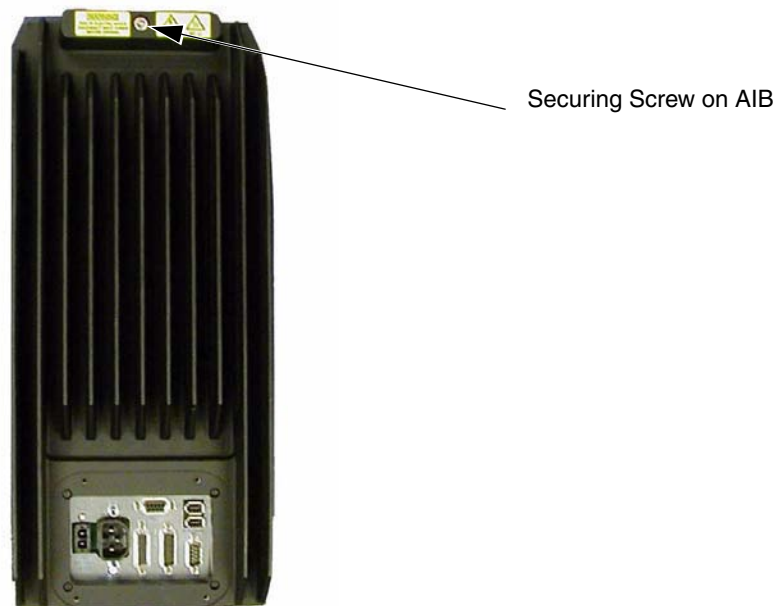

Figure 8-1. Securing Screw on AIB Chassis
10. Once the chassis is in place, use a 5 mm Allen key to tighten the chassis securing screw. See Figure 8-1 on page 104.